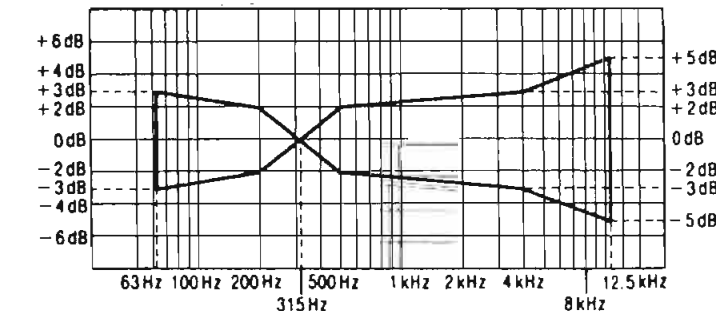

Fig. 10
- Playback the 315 Hz/-20 dB and 12.5 kHz to 63 Hz/-20 dB sections of the test tape (QZZCFM) and then, using the 315 Hz/-20 dB playback output as a reference (0 dB), confirm that the playback frequency response is within the range shown in Fig. 10.